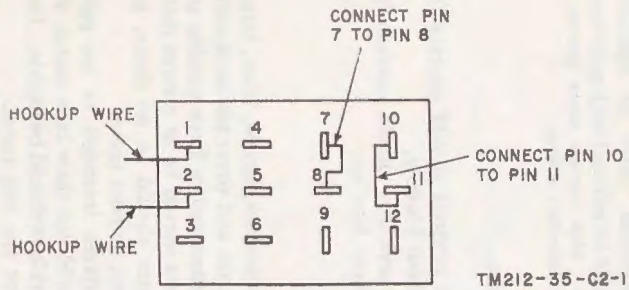

Figure 48.1. (Added) Receiver special purpose test cable.
f. To perform the test on the receiver, fabricate a special purpose test cable as illustrated in figure 48.1.
Special purpose test cable (fig. 48.1)
- Special purpose test cable (fig. 48.1)